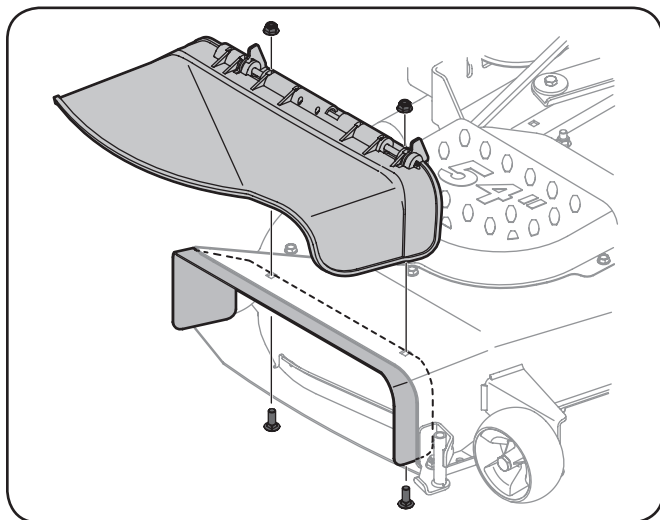

Figure 4-17
3. Install the chute discharge plate to the inside of the deck opening, as seen in Figure 4-17, using two carriage bolts (710-3168) supplied in hardware pack 689-00326.